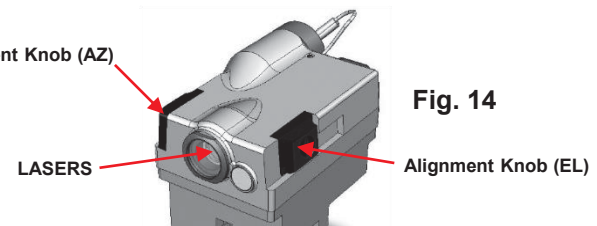

Fig. 14
7. Turn the SAT AZ & EL knobs shown in Fig. 14, moving the red laser until the laser dot is in the center of the bore scope reticle as shown in Fig. 16.